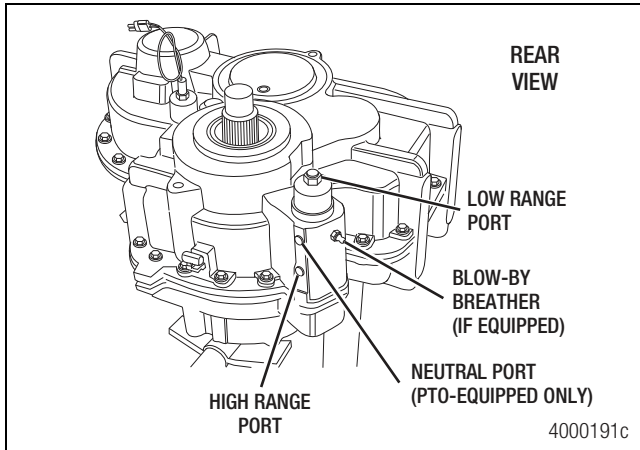

Figure 5.15
5. Shift the transfer case into high range using compressed air at the high-range port of the shift cylinder. Figure 5.15.